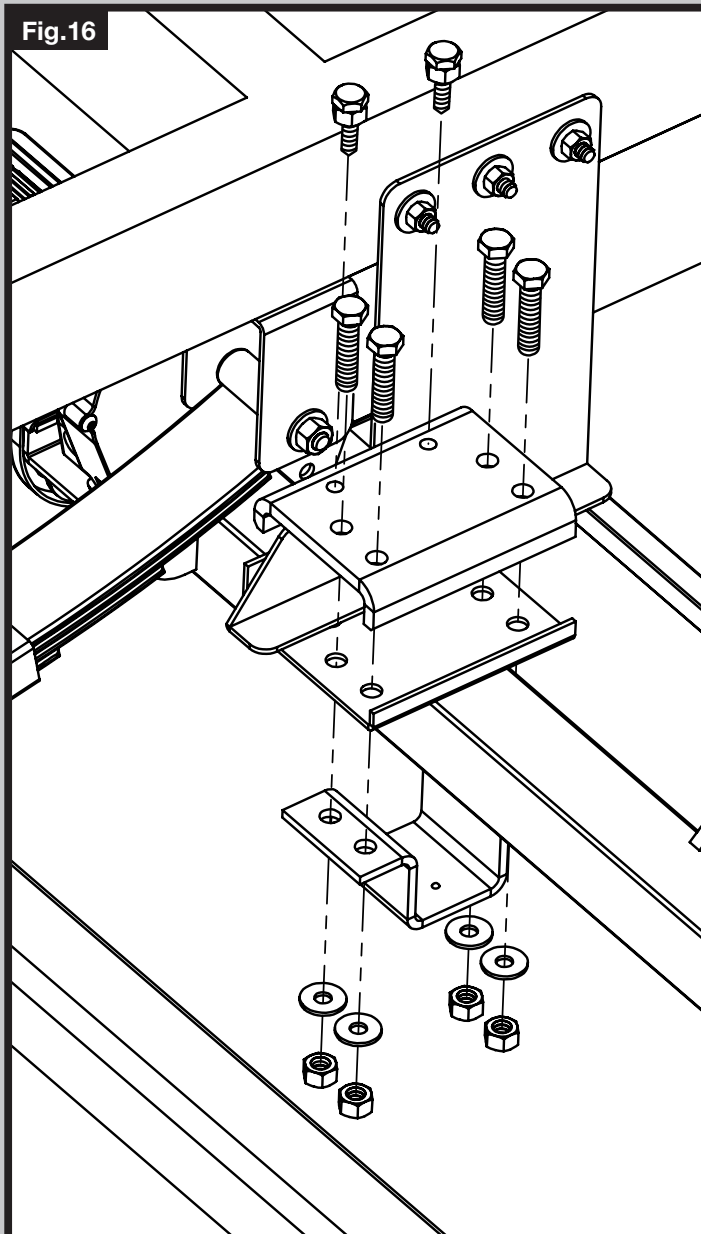
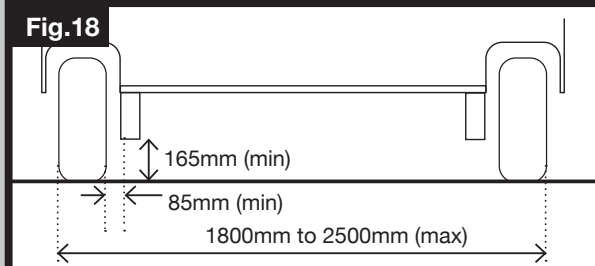

Fig.18
Fig.18A
The chassis clamps and chassis plates provided are suitable for fitment onto most standard caravan chassis. Please refer to Fig.18 for reference on dimensions and clearances BEFORE you proceed any further with installation. The fixings provided are also suitable for most European type chassis and will not normally require the use of the chassis plates (37) and will, instead, fit straight onto the lip of an 'L' profile or 'U' profile chassis (please refer to Fig.18A for reference).